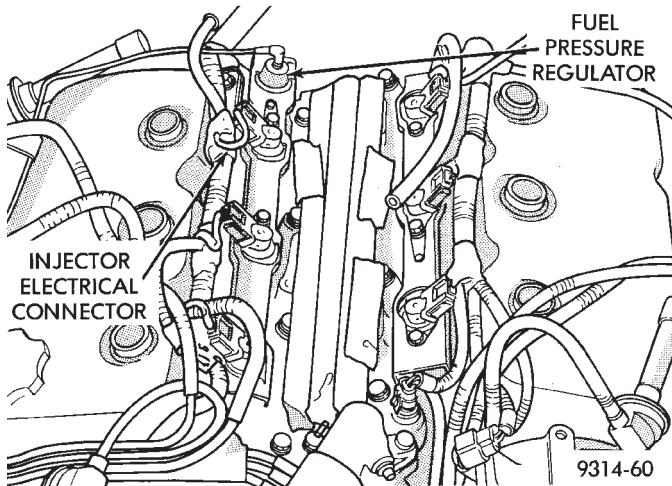

Fig. 29 Injector Electrical Connectors
(6) Remove electrical connector from injectors.
(7) Remove the vacuum tube from the fuel pressure regulator (Fig. 29).